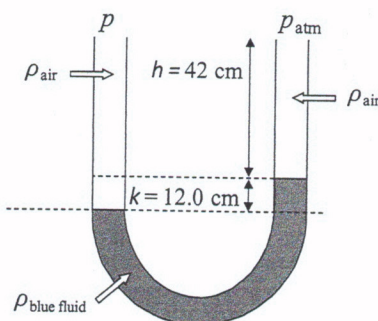

Figure 4.65
13. A standard manometer is used to calibrate a digital pressure meter. For the manometer shown in Figure 4.65, one side is open to atmospheric pressure ($p_{\text{atm}} = 76.2 \text{ cm Hg}$). What is the unknown pressure P ? The manometer